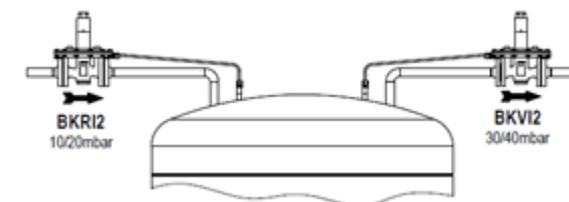
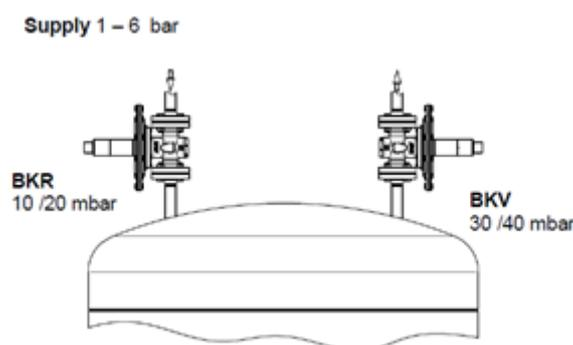

Figure 1 – Typical installation
Figure 2 - Typical installation with overpressure
- For installations where condensate can be present, it is strongly recommended to install proper drainage of the system and the valve should be positioned in a way that avoids condensation accumulation inside it. Vertical installation of the valve is recommended (to allow drainage) or horizontal as close to the process as possible to prevent long pipe sections and flow restrictions -see Figure 1 and Figure 2.